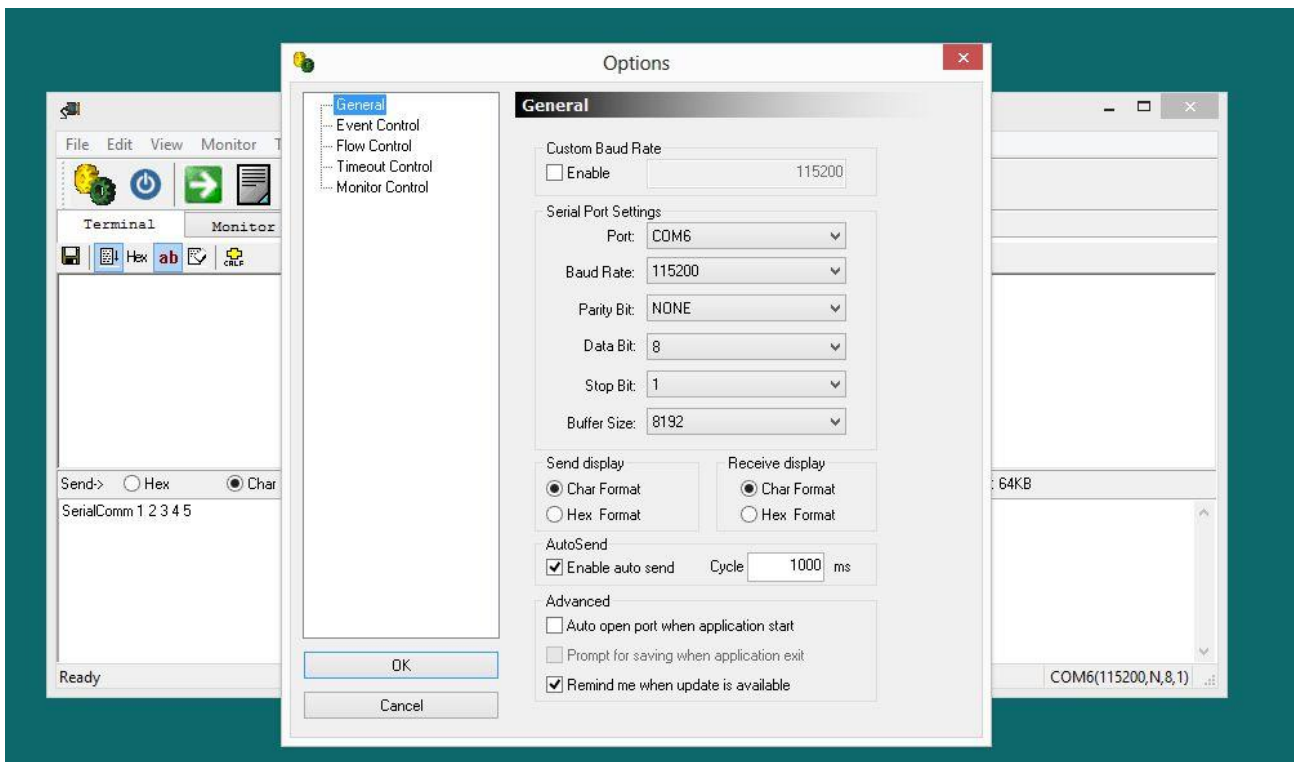

FIGURE 4.51 – ACCESSPORT SERIAL PORT CONFIGURATION
- 2) In AccessPort select the yellow and green gear for each instance. Choose the COM ports and serial settings. Select “Enable Auto Send” and select OK. (SEE FIGURE 4.51)
- 3) Perform the same setup of the other computer with its COM port settings. (SEE FIGURE 4.51).